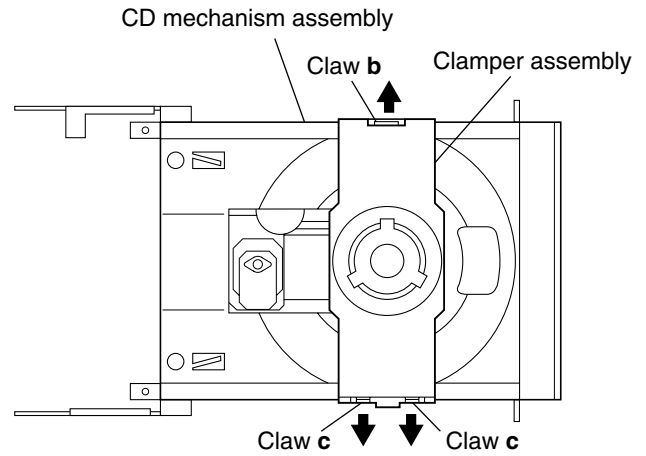

Fig.4
(See Figs. 4 to 7.)
1. Remove the left and right side panels (see **Figs.4** to **7** of "Main body section" on page 1-7).